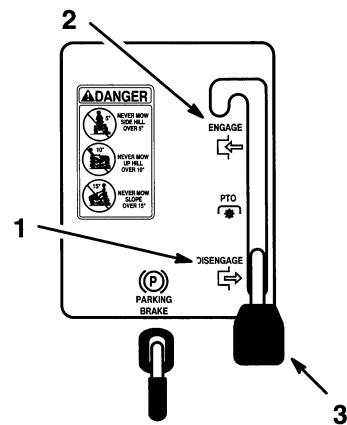

Figure 21
2. Move the blade control (PTO) to “ENGAGED” (Fig. 21).
2. Move the blade control (PTO) to “DISENGAGED” (Fig. 21).